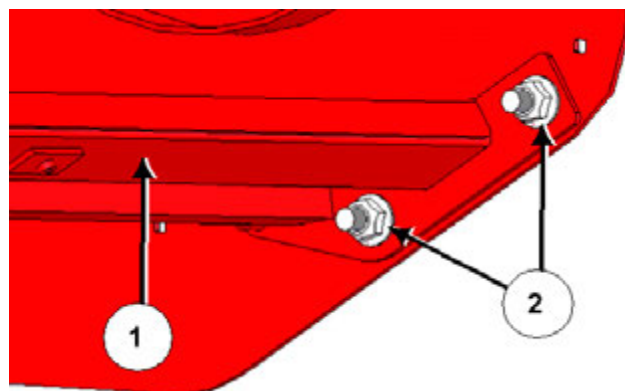

Figure 16: Remove bolts on rear tub wall
- c. Remove the bolts (2) fastening one side of the tub floor (1) to the tub wall; see *Figure 16*.